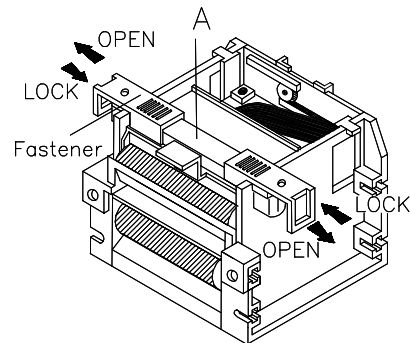

fig. 3.2.1
2. Press your pointing finger on "A", move out the two plastic fasteners from the retainer, and you can take out the retainer and the print head unit. (see figure 3.2.1)